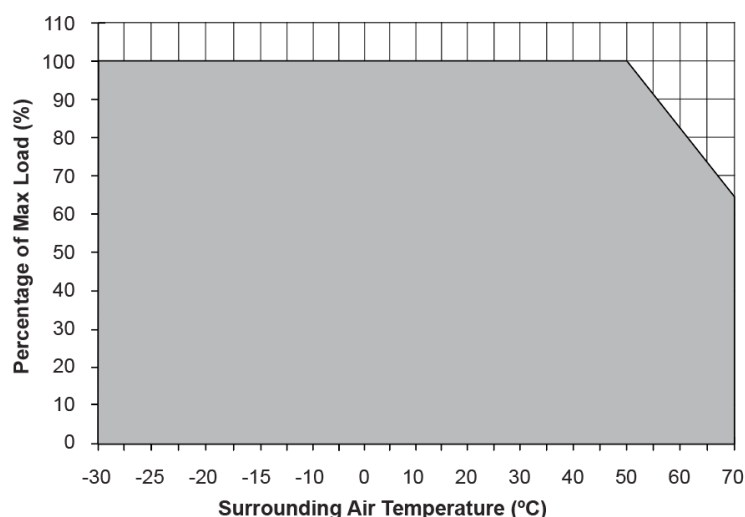
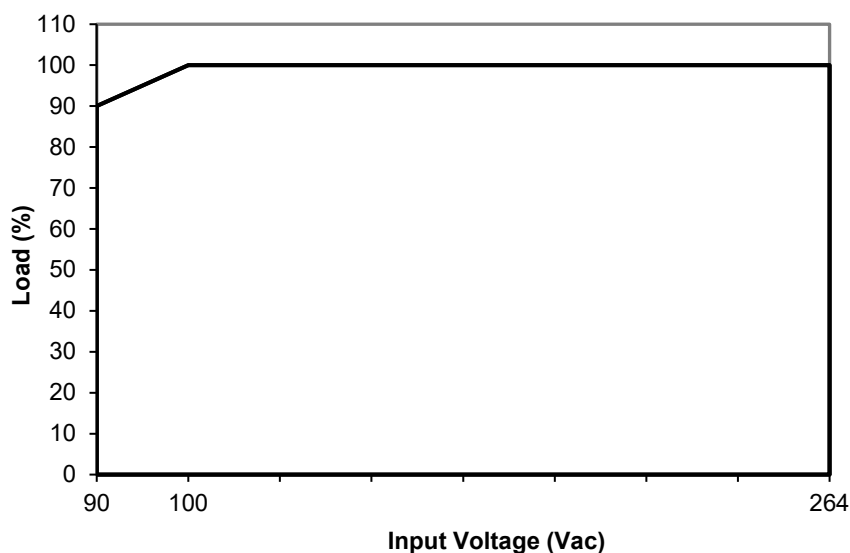

Fig. 1 De-rating for Horizontal Mounting Orientation
Fig. 2 De-rating for AC Input Voltage
1. Power supply components may degrade, or be damaged, when the power supply is continuously used outside the shaded region, refer to the graph shown in Fig. 1 & Fig. 2.